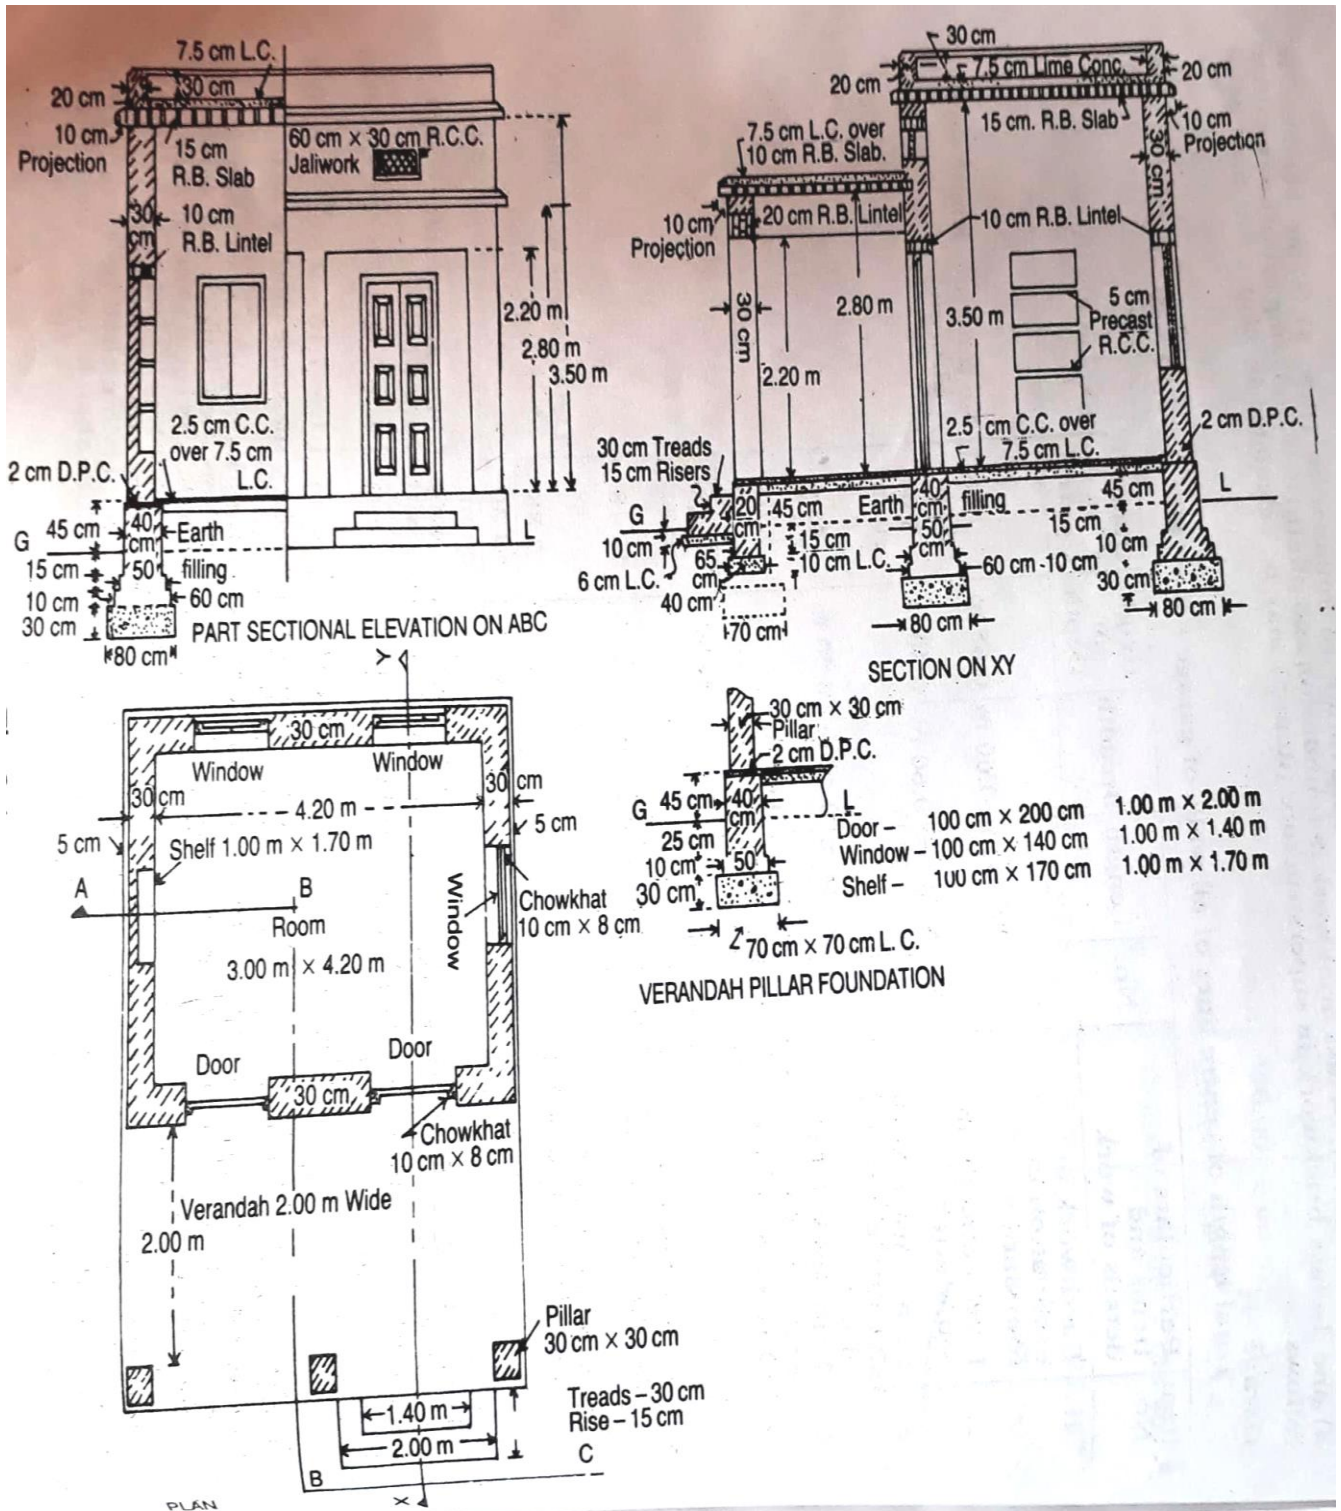

Fig. 1.
5. Estimate the quantities of following item of works from the Single-roomed Building shown in Fig. 1. a) Earthwork in Excavation in foundation b) Lime concrete in foundation c) 1st class brickwork in superstructure in lime mortar. 14M